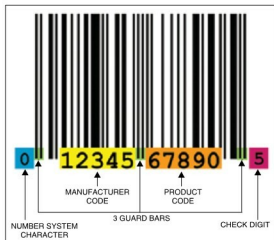

Fig. 3: Sample format of barcode
Fig. 3 shows the sample format of
**Product code.** This is a five-digit number that the manufacturer assigns for a particular product. Every different product and every different packaging or size gets a unique product code. A manufacturer can have 99,999 unique product codes. The product code is marked in Fig. 3 with orange colour.
**Three guard bars.** There are three guard bars highlighted with green colour in Fig. 3, at the beginning, middle and the end of barcode. The beginning and ending guard bars are encoded as 'bar-space-bar' or '101.' The middle guard bar is encoded as 'space-bar-space-bar-space' or '01010.' The guard bars tell the computer-scanner when the manufacturer and product code begin and end. For example, when the computer scanner reads the first '101' or guard bar, the computer knows the next series of numbers is either the manufacturer or product code. Similarly, when the scanner reads the '01010' or middle guard bar, the computer
**Number system character.** This number is a UPC system number that characterises specific types of barcodes. A UPC barcode is normally on the left side of the barcode. The actual barcode (the 'bars' and 'spaces') is the one after the first 'guard bar.' The number system character is symbolised with blue colour in Fig. 3.
**Check digit.** Also called the 'self-check' digit, it is on the outside-right of the bar code. Check digit is an old-programmer's trick to validate that the other digits (number system character, manufacturer code and product code) are read correctly. It is marked with red colour in Fig. 3.